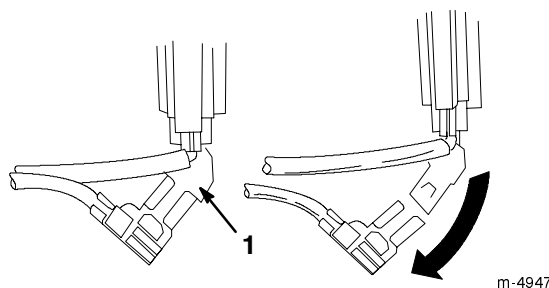

Figure 22
6. Disconnect the green ground wire clip under the throttle (Fig. 22).